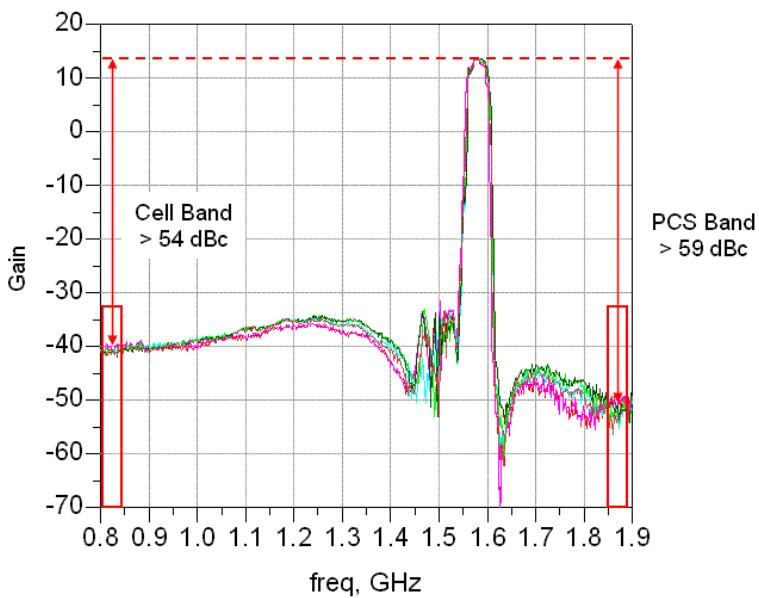

Figure 9. Multiple module plots of rejecton at Cell and PCS Bands
- The grounding regime for the ALM-1412 is critical to achieving the PCS- and Cell-Band Rejections shown in Figure 9. Please refer to the PCB Land Patterns section of this document for the exact locations of the grounding vias.